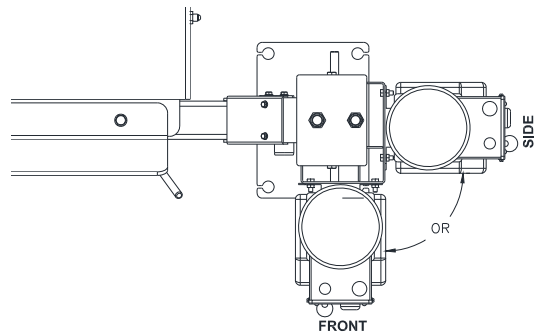

Fig 15 – Power Unit
- 31) Install the Power Unit to the column using the supplied M8x20mm bolts and M8 nuts. The power unit can be installed on either the front or side of the power column to suit install location, shown in **Fig 15**.